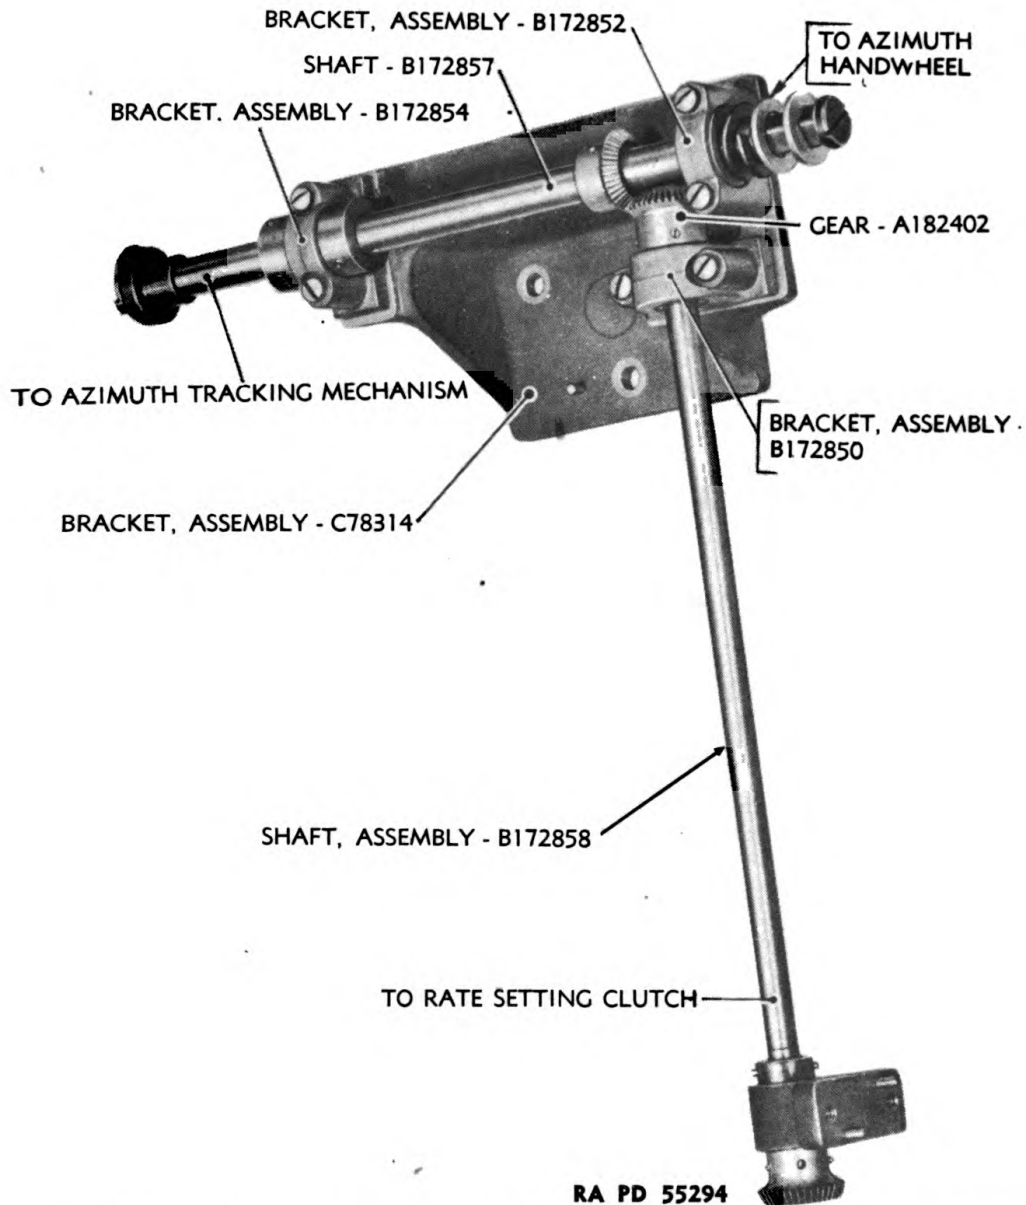

Figure 12 – Azimuth Differential Drive Shaft Group Assembly D43778
b. **Azimuth Differential Drive Shaft Group Assembly D43778** (figs. 12 and 13). This includes the azimuth handwheel shaft which